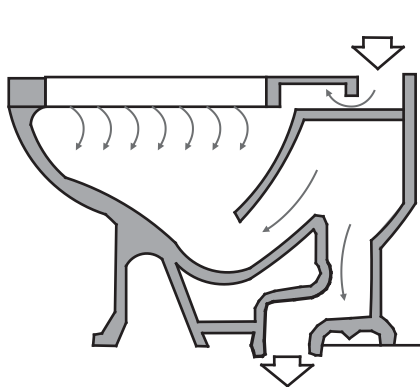

Figure 10.20: Siphon vortex water closet
- **Siphon Vortex:** The flushing action in this type of water closet bowl is started by a whirlpool action followed by a flush down of the liquid containing the wastes. Water is directed through a rim to create a vortex in the water contained in the closet as shown in Figure 10.20. Though it is more expensive but it is very efficient, quiet and extremely sanitary. It has a large amount of standing water almost covering the interior surface of the bowl.